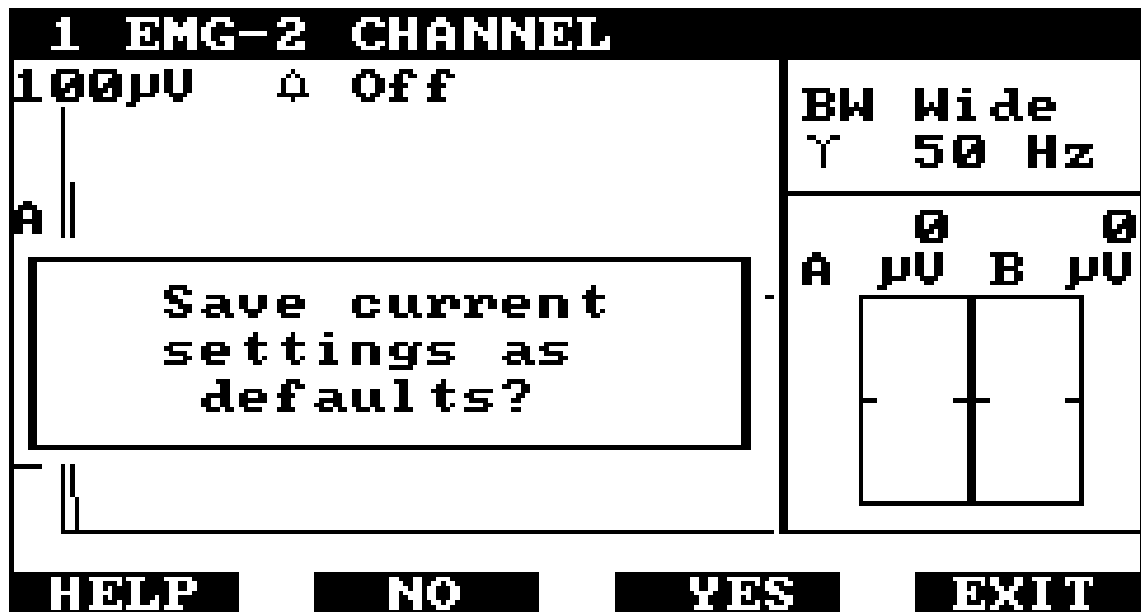

Figure 19 - Setting Defaults
14. F3 - DEFS: The current settings of the EMG module may be saved as the power-on default settings by pressing F3 - DEFS. A window will appear asking the user to confirm that the current settings should become the power-on defaults (figure 19). Press F3 - YES to save the current settings as power-on defaults. Pressing F2 - No or F4 - EXIT will return to the main set-up and display screen with no action taken.